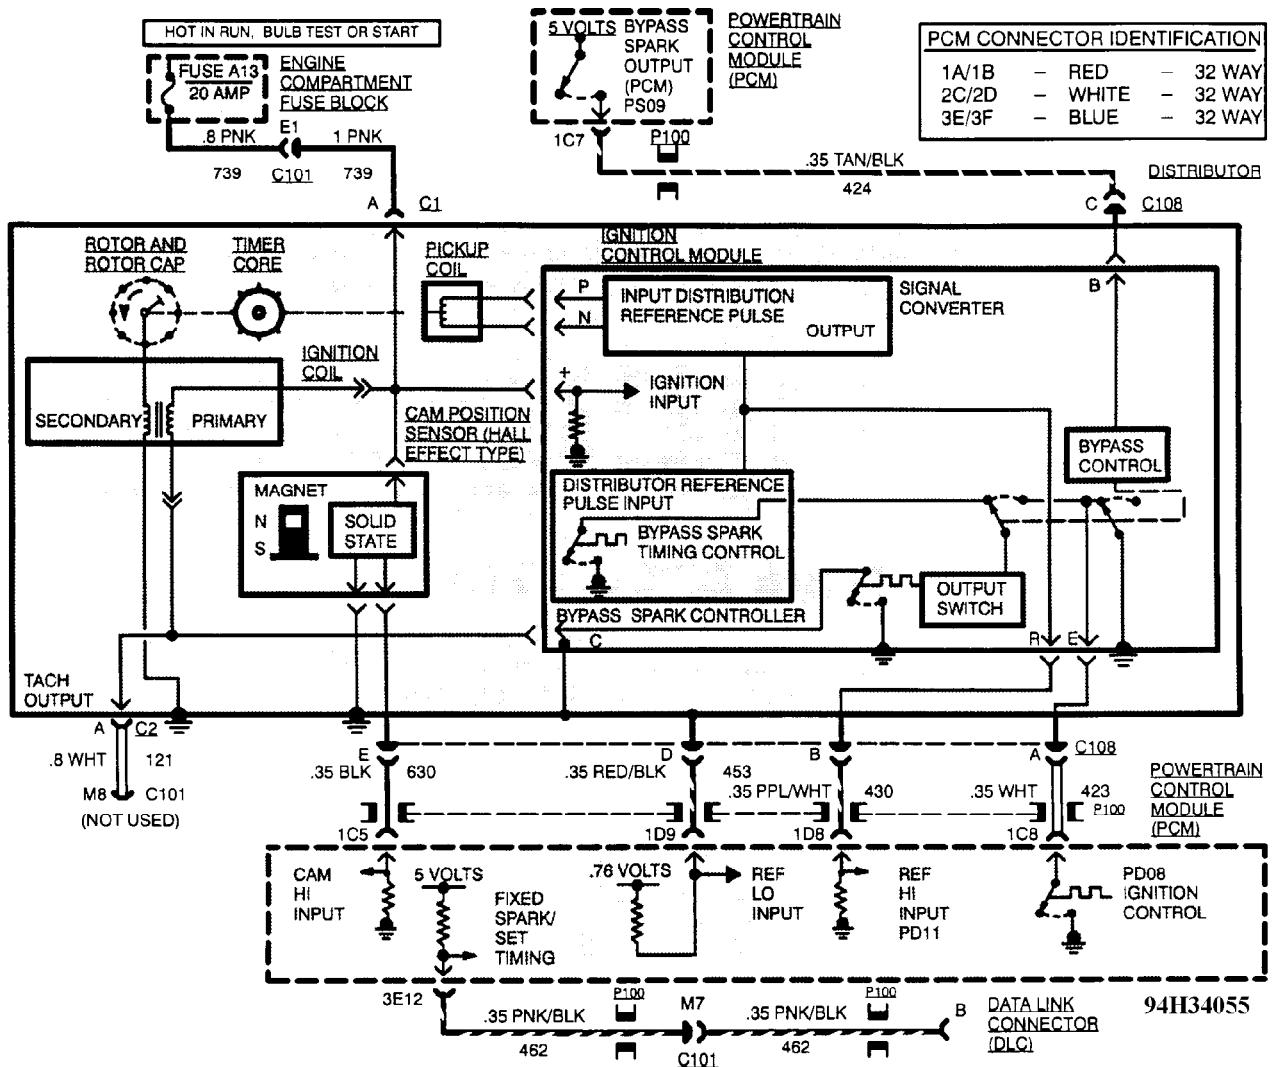

Fig. 2: 4.9L Ignition System (Cadillac)
8) If spark does not occur, turn ignition off and disconnect pick-up coil leads from module. Turn ignition on. With voltmeter connected to distributor TACH terminal and fabricated coil spark tester connected, momentarily touch test light, connected to battery voltage, to ignition module terminal "P". See Fig. 2.